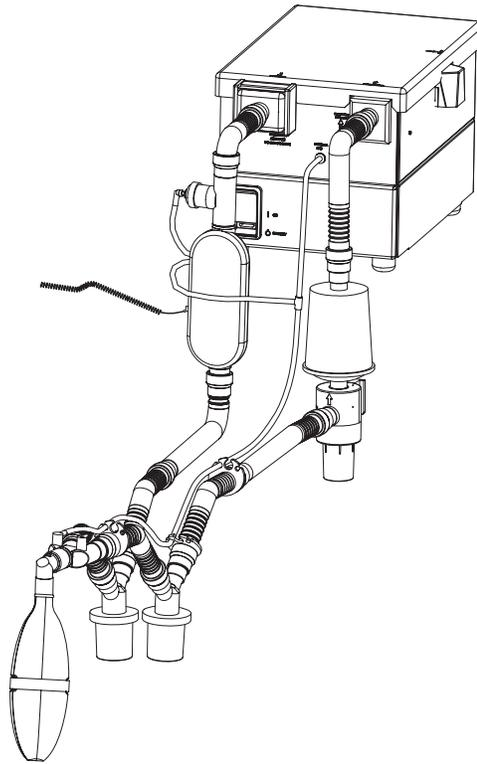

Figure 6-1 Analyzer set-up.
- 2** Connect the calibration analyzer with oxygen sensor between the main flow outlet and the adult breathing circuit. Tee in the proximal line from the patient wye to the analyzer. (See Figure 6-1)